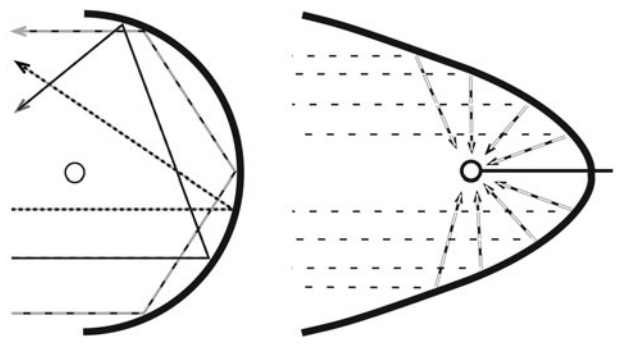

Figure L63-2
- A parabolic surface works for both sound and light. Mini-umbrellas create a semi-rigid parabolic surface that works nicely for sound. Silvered Mylar film sold as emergency blankets at dollar stores reflect light. Figure L63-2 helps remind us that a parabola is not a semicircle. Large telescopes and small satellite dishes use the same concept for gathering and focusing.